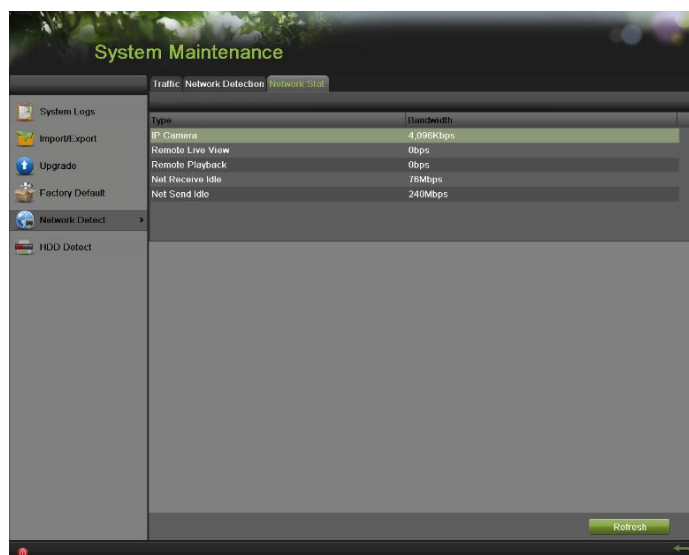

Figure 150 Network Stat. Interface
2. Select the Network Stat. tab to enter the Network Stat. menu, as shown in Figure 150.